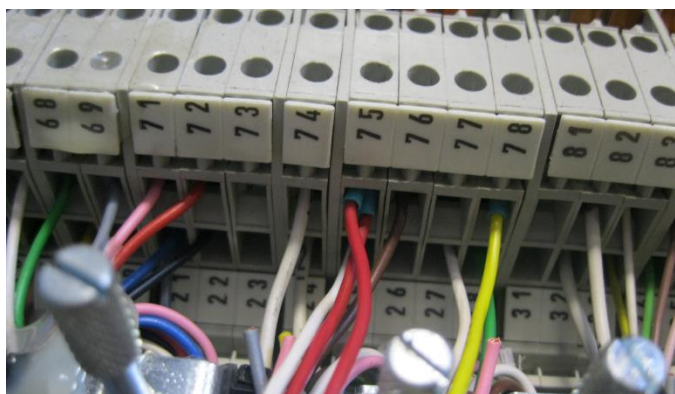

Figure 6 | Hybrid XT wires connected to terminals
2. Connect the wires from the Hybrid XT cables to the appropriate terminals specified in Table 1 at the end of this section (Figure 6).